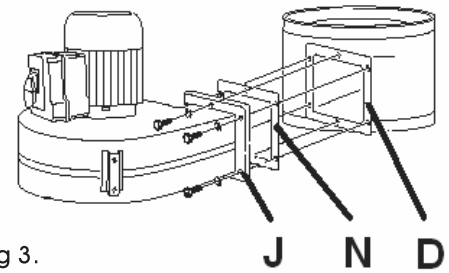

Fig 3.
2. Motor and bag-support assembly: Align the motor assembly and bag support assembly as shown in Fig 3. Place the square rubber gasket (N) into the exhaust port of the motor assembly (J). Attach with bolts and washers.